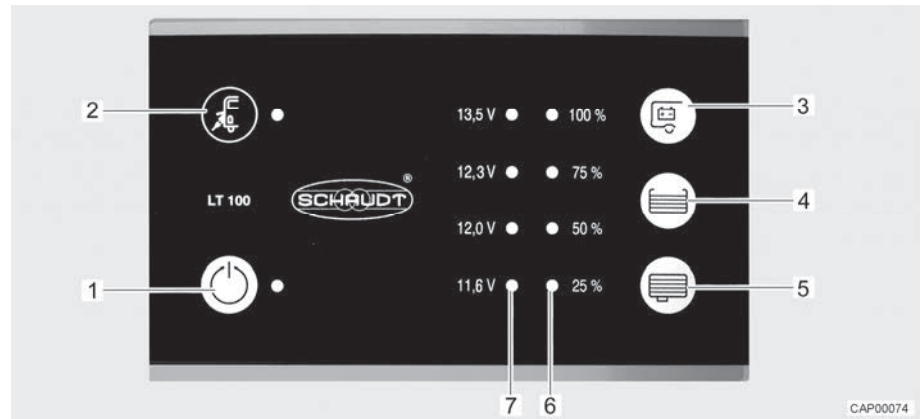

Fig. 50 Panel (LT 100)
The yellow LED at the mains connection symbol "⚡" (Fig. 50,2) is lit when the vehicle is connected to an external mains supply. In this case, the LED will also be lit when the panel is switched off.
The 12 V main switch (Fig. 50,1) switches the panel and the 12 V power supply of the living area on and off.
- Press switch "⏻" (Fig. 50,1): The 12 V living area power supply is switched on. The LED lights up green.
- Press switch "⏻" (Fig. 50,1) again: The 12 V living area power supply is switched off. The LED goes out.
The LED array (Fig. 50,7) displays the battery voltage of the living area battery as follows:
- Press the button " " (Fig. 50,3): the battery voltage of the living area battery is displayed.
The LED array (Fig. 50,6) displays the fill level of the fresh water tank or of the waste water tank.
Press the button " (Fig. 50,4): The fill level of the fresh water tank is displayed by lit LEDs.
Press the button " (Fig. 50,5): The fill level of the waste water tank is displayed by lit LEDs.